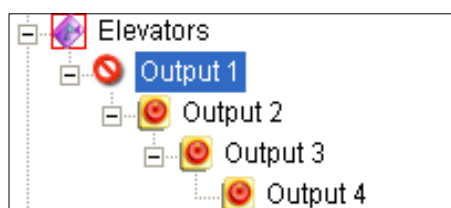
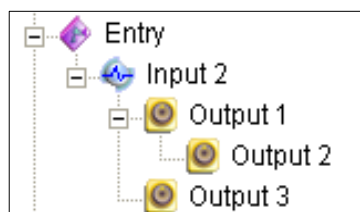

Figure 2-24
Figure 2-25
- In the Advanced I/O List, considering cascade triggers, you can only manually force the output at the top level, e.g. Figure 2-24. Other outputs at sub levels cannot be forced manually, e.g. Figure 2-25.